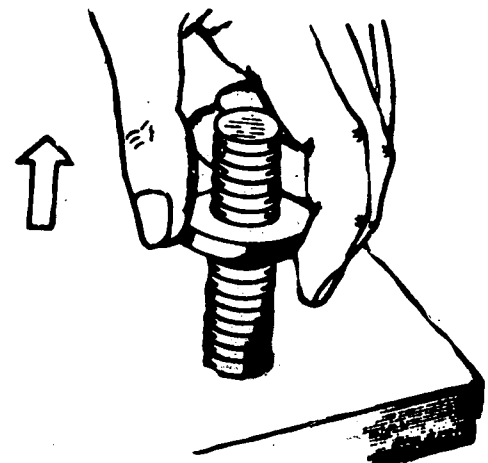

Fig. 3
- c) Remove the washer (Fig. 3).